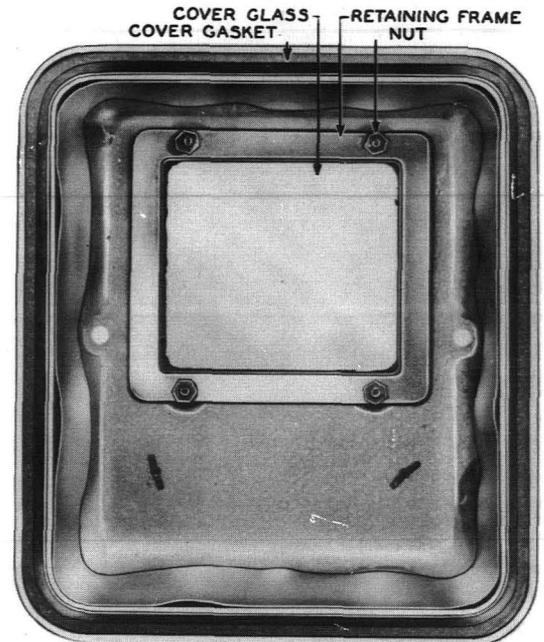

Fig. 2 - Back View of Cover
(1) To replace the cover, unscrew the two wing nuts, remove the washers, and remove the cover. Use care in removing the cover since it is seated in a gasket, making the meter dust tight. Replace the cover with a new one and remount the washers and the wing nuts.
3.08 Cover Glass (See Fig. 2)
(1) To replace a cover glass, remove the cover as outlined in 3.07. Remove the nuts and lockwashers holding the retaining frame against the glass. Remove the retaining frame and any broken glass. Clean the portion of the cover and retaining frame where the glass rests with petroleum spirits. Apply a thin coat of shellac on both surfaces of the new glass which will be between the retaining frame and cover. Place glass and retaining frame in proper positions. Remount lockwashers and nuts, tighten nuts evenly. Apply shellac to nuts and ends of screws.
3.09 Cover Gasket (See Fig. 2)